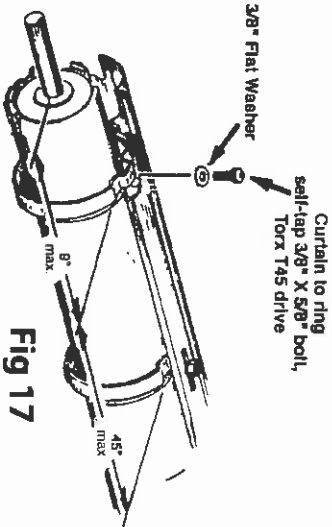

Fig 17
- If the barrel has rings, hold the top slat on the rings and make holes in the top slat aligned with holes in rings. Use drill/driver to attach top slat to rings with 3/8" round head Torx screws and washers provided. Set the drill/driver clutch to minimum torque required to drive screws. **DO NOT USE IMPACT WRENCH** because it will strip the screw threads in rings. See Figure 17.